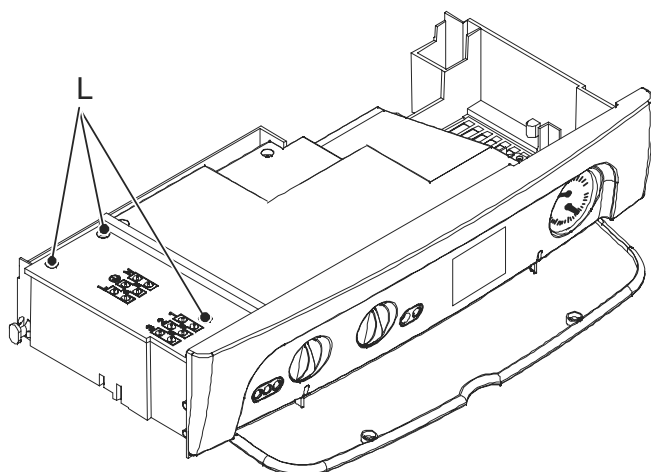

Fig. 6.10
- 5 Loosen the screws L and remove the service panel (Fig. 6.10).